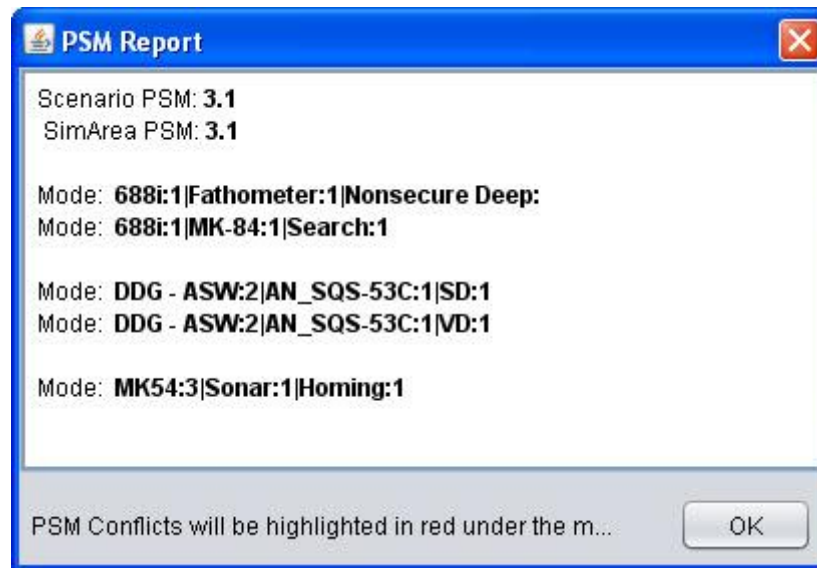

Figure 4-15 PSM Report window
1. Select **PSM Report** from the **Tools** dropdown menu or click on the PSM Report toolbar button (☀️). Upon doing so, the PSM Report window shown in Figure 4-15 will be displayed indicating scenario PSM, simulation area PSM, and the various modes used to generate the report. If there are any PSM conflicts they will be noted in red text shown in the Mode fields of the PSM Report window as well as in the Mode window (see Platform List Display Area section